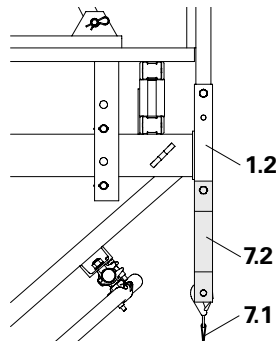

Fig. B1.32
2. Mount Tension Belt (7.1) to the bolts using the end of the belt without turnbuckle. (Fig. B1.32)